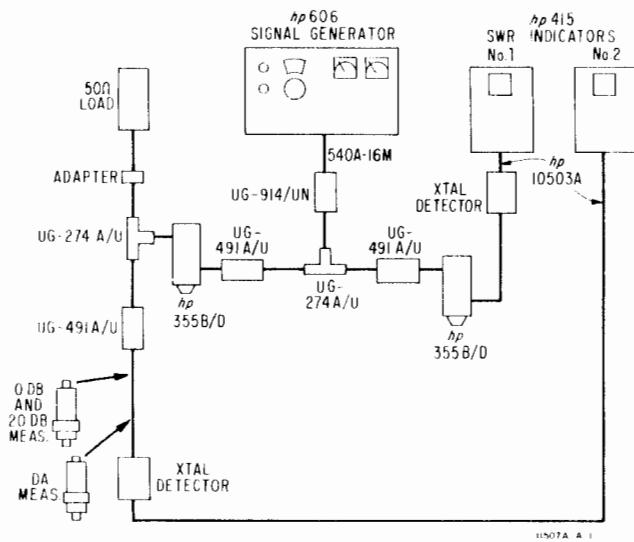

Figure 2. Insertion Loss Setup Diagram
- c. Connect test setup as shown in Figure 2.
h. Remove the 50-ohm load and its associated UG-274A/U and UG-491A/U connectors from the circuit. Set the termination to 0 dB and connect between attenuator and the termination detector as indicated in Figure 2.
c. Connect test setup as shown in Figure 2.
f. Set the termination to DA and insert it as indicated in Figure 2 (output end toward generator). Leave the 50-ohm load connected.